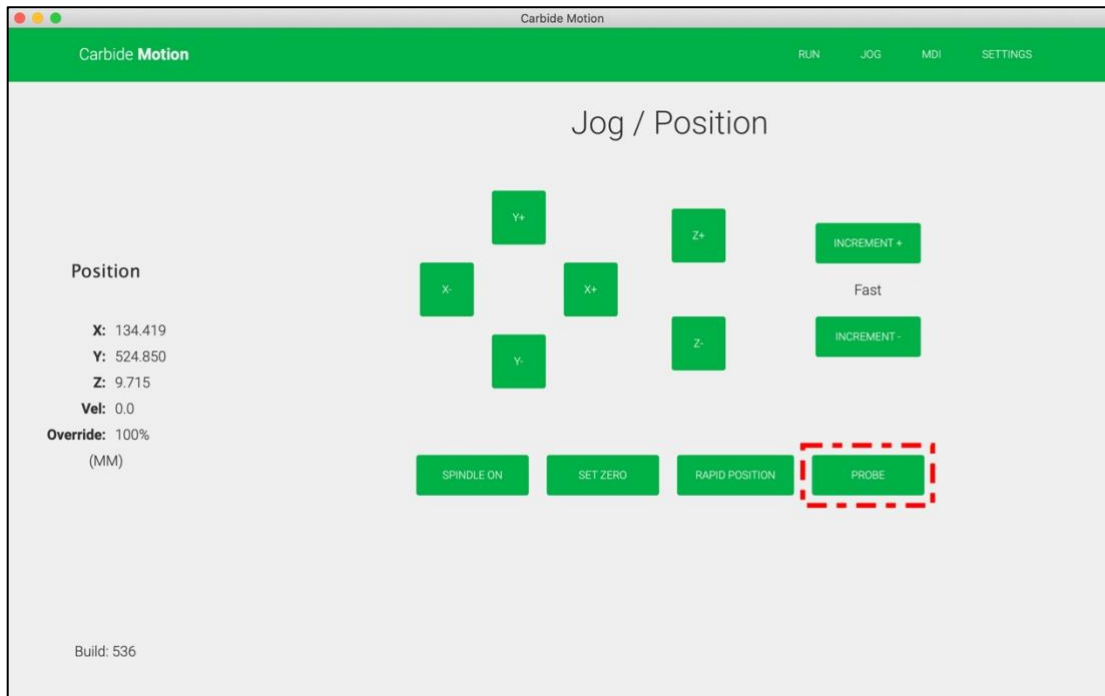

Figure 18
9. Click the **Probe** button to open the *Probe Workpiece* window. See **Fig. 18**.